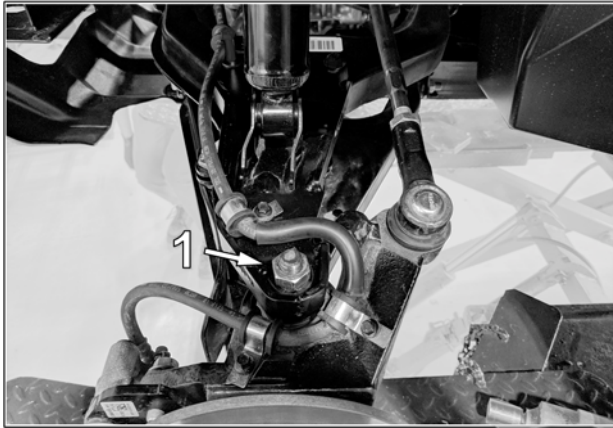

Fig. 18
7. Re-install Ball Joint nut (1) without tightening it at this point. See Fig. 18 or Fig. 19.